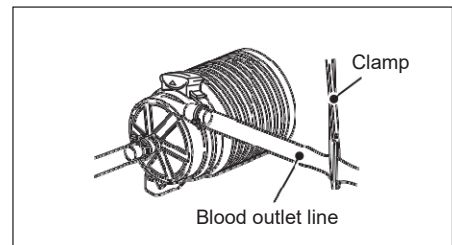

Figure 1-62
- 2. Clamp the blood outlet line of the centrifugal pump. (Figure 1-62) Turn the motor speed knob to the coast speed. Gradually release the clamp of the blood outlet line.**